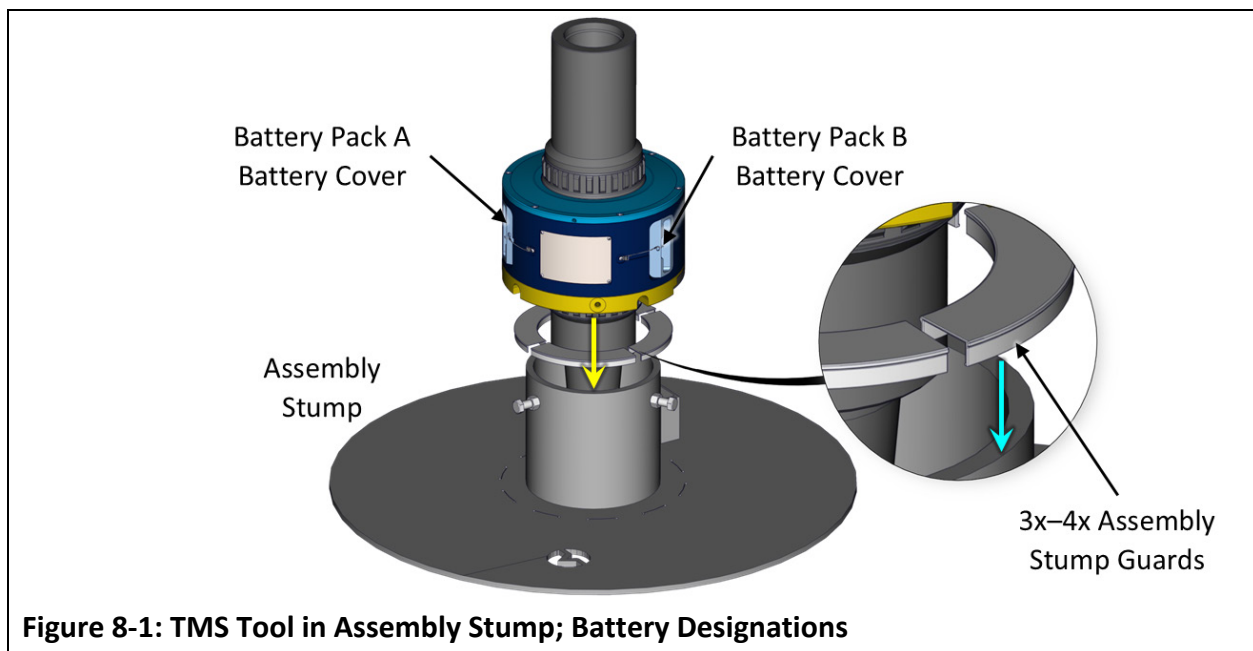

Figure 8-1: TMS Tool in Assembly Stump; Battery Designations
- NOTE** Orient and secure the TMS in the **Assembly Stump** as shown in Figure 8-1 to perform maintenance on the TMS. Before lowering the TMS tool into the Assembly Stump, fit up 3x–4x **Assembly Stump Guards** in the noted orientation to protect the **Enclosure** surfaces. Note the instructions and capacities marked on the Assembly Stump.